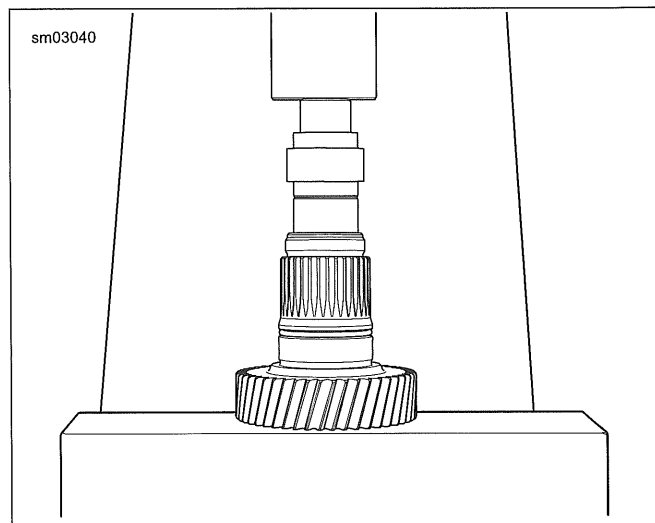

Figure 5-70. Installing Outer Needle Bearing in Main Drive Gear
4. See Figure 5-70. Use MAIN DRIVE GEAR BEARING AND SEAL INSTALLATION TOOL (PART NUMBER: HD-47932) to install outer needle bearing. Press until tool contacts gear.